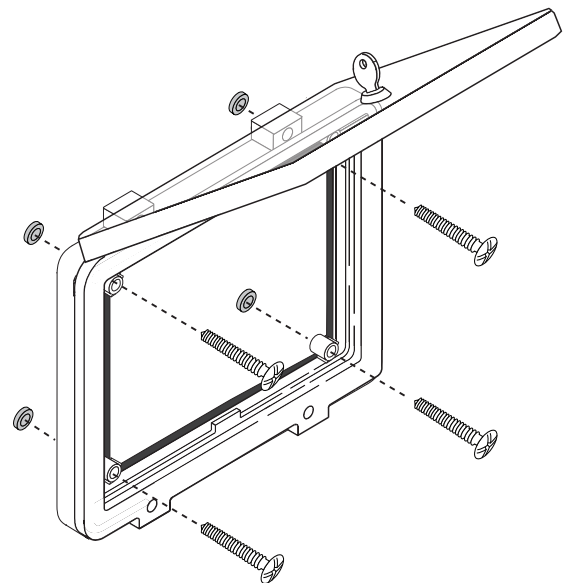

Figure 3: Mounting Protector Assembly to Wall
5. Attach the assembly to the wall with the included long screws. Refer to Figure 3.